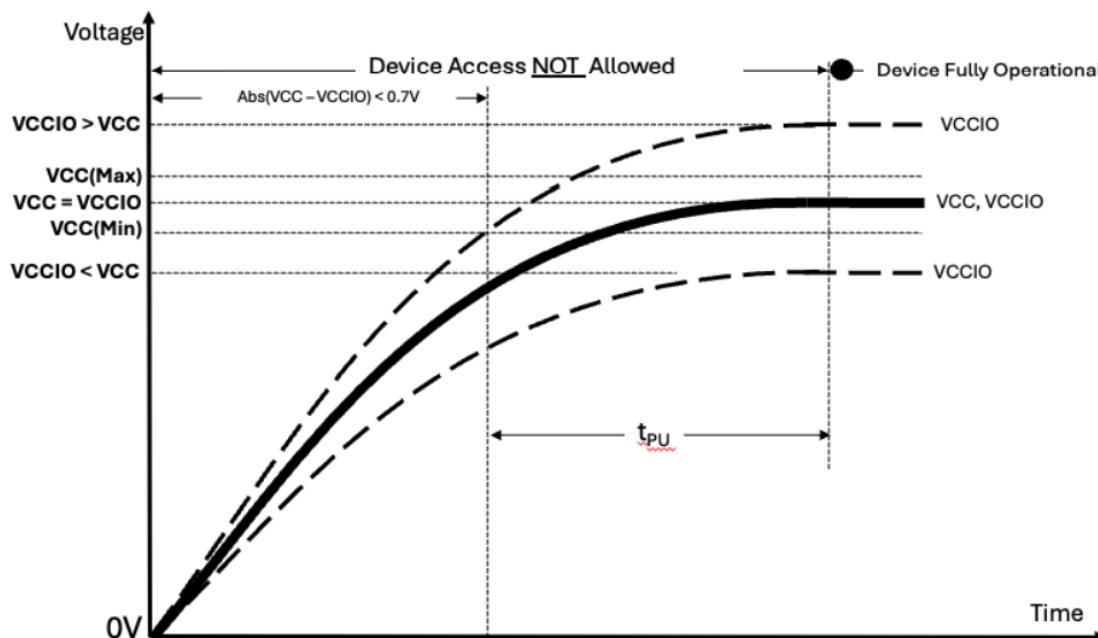

Figure 6: Power-Up Behavior
- During Power-up, recovering from power loss or brownout, a delay of tPU is required before normal operation commences (Figure 6).